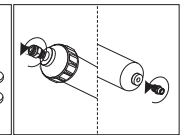

Fig. 6
**NOTE!** Do NOT remove elbow connector after the installation has been started. Stopping and removing (unscrewing) the element may result in inadequate connection and water leak. (fig.6).